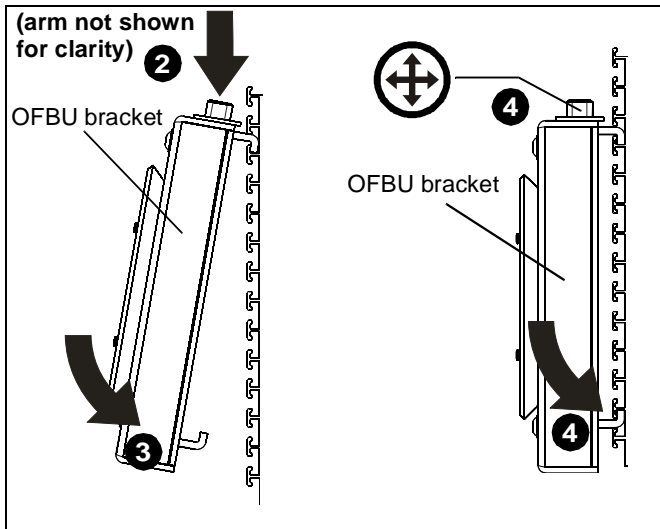

Figure 2
2. Locate desired installation location and slide upper mounting plate into wall making sure bracket is seated in channel bottom. (See Figure 2)
4. Using 1/2" socket, tighten tension hex head bolt until lower mounting plate slides into channel in wall and continue tightening until resistance is felt. (See Figure 2)